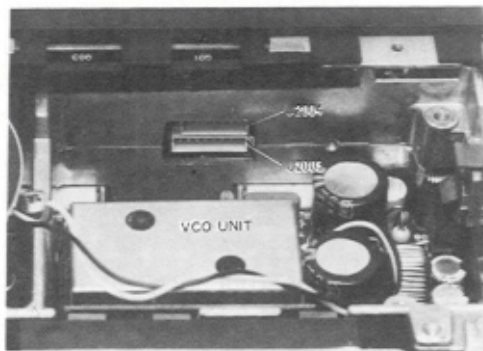
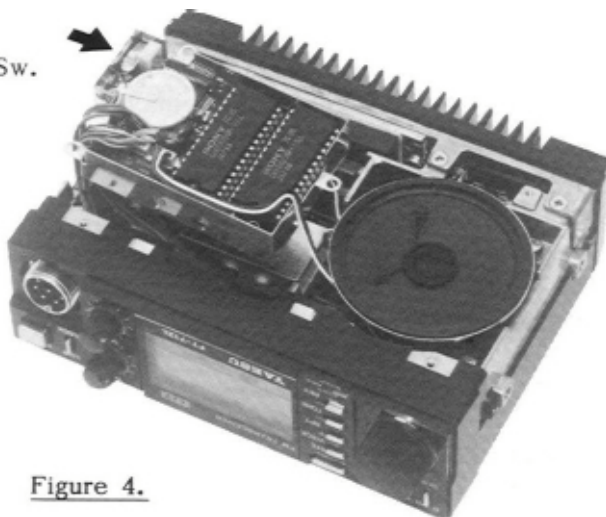

Figure 3.
Figure 4.
- (3) Connect the 8-pin plug from the DVS-I to 8-pin jack J2003 on the inside of the front panel (the gray wire should be nearest the center). See Figure 3.
- (4) Connect the 7-pin plug from the DVS-I to 7-pin jack J2004 on the inside of the front panel (the brown wire should be nearest the center).
- (5) Connect the 3-pin plug from the DVS-I to jack J1003 in the right front corner of the speaker compartment.
- (6) Making sure that no wires are pinched, set the DVS-I in place, routing the speaker wires out under the back of the DVS-I. Install the two supplied screws through the tabs in the DVS-I: one in the left front corner of the chassis, and one in the rear.
- (7) Set the Voice Memory Backup switch in the left rear corner of the DVS-I (Figure 4) to the ON position (toward the rear).
- (8) If also installing the FTS-12, proceed to step 2 of the FTS-12 Installation. Otherwise, do step 5 of the FTS-12 Installation.